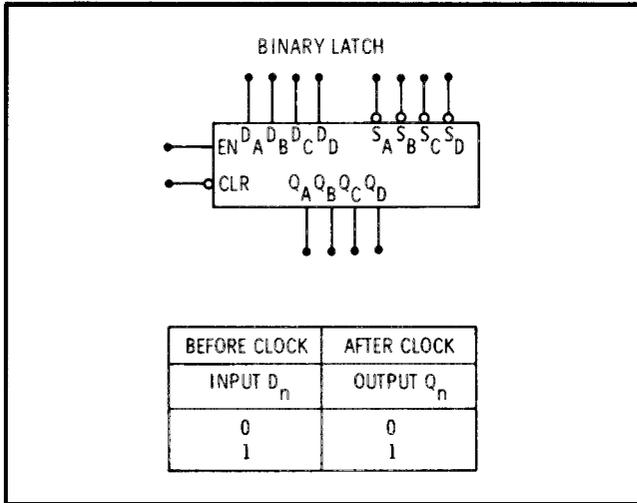

Figure 8-10. Binary Latch
8-54. Binary Latch. The four bit binary register shown in Figure 8-10 is used as a storage latch. Information data (D_n)* inputs is transferred to the respective Q_n * outputs when the enable (EN) input